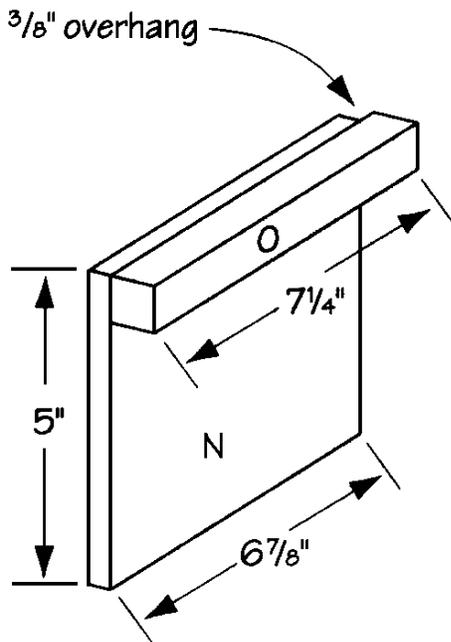

Figure 9
1. Cut two drawer sides (N) from 3/8" exterior plywood, each measuring 5 x 6-7/8 inches.
- Cut two drawer glides (O) from 1 x 1 pine, each 7-1/4" long. To allow the drawers to slide without binding, plane or rip the drawer slides (O) on one side so they measure 1 1/16 x 3/4 inch.
- Apply glue to the meeting surfaces, and attach one drawer glide (O) to one 6-7/8" edge of a drawer side (N), using three 1"-long finishing nails, as shown in *Figure 9*. Note that the drawer glide (O) extends past the drawer side (N) by 8/8" on one end.